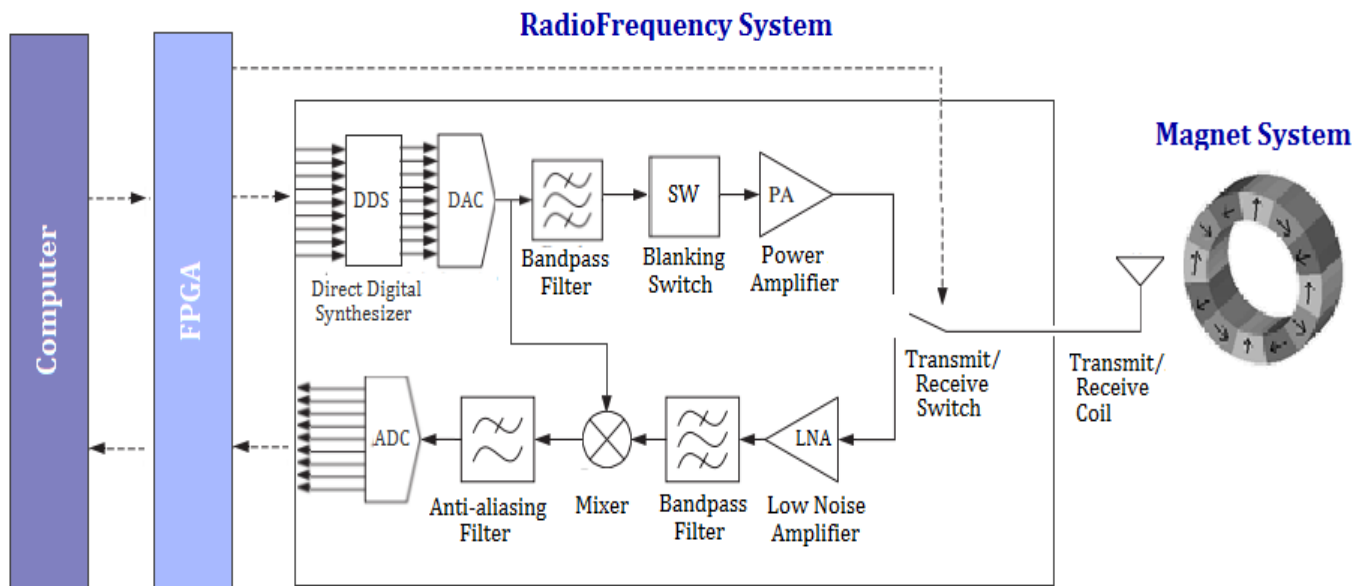

Figure 1: System Overview
Our MRI design consists of a rotating magnet system and a radio frequency (RF) system. The magnet system consists of several permanent magnets arranged in a Halbach array as shown in Figure 1. Compared to other arrangements, Halbach array produces a stronger and more homogenous magnetic field within a larger working space. The radio frequency system can be divided into a transmission and a receiving chain. A microcontroller is used to program RF pulses and a Direct Digital Synthesizer (DDS) is used to generate high frequency sine waves. This signal is then amplified and sent to a solenoidal coil, which generates a magnetic field perpendicular to the magnet's magnetic field that tips the proton by 90 degrees. When the pulse is removed, the proton will relax back to a lower energy state by emitting a response. A separate receiving coil is used to pick up this response. During receiving, the T/R switch couples the low noise amplifier to the receiving coil. The T/R switch provides isolation during transmission to protect the low noise amplifier from any damages. The response signal is generally very weak in the range of microvolts. A low noise amplifier is used to amplify the signal without introducing distortion. The signal is then filtered using a low pass filter and digitized using an Analog to Digital Converter (ADC). The microcontroller can be used to send the signal to a computer for signal processing and image reconstruction.